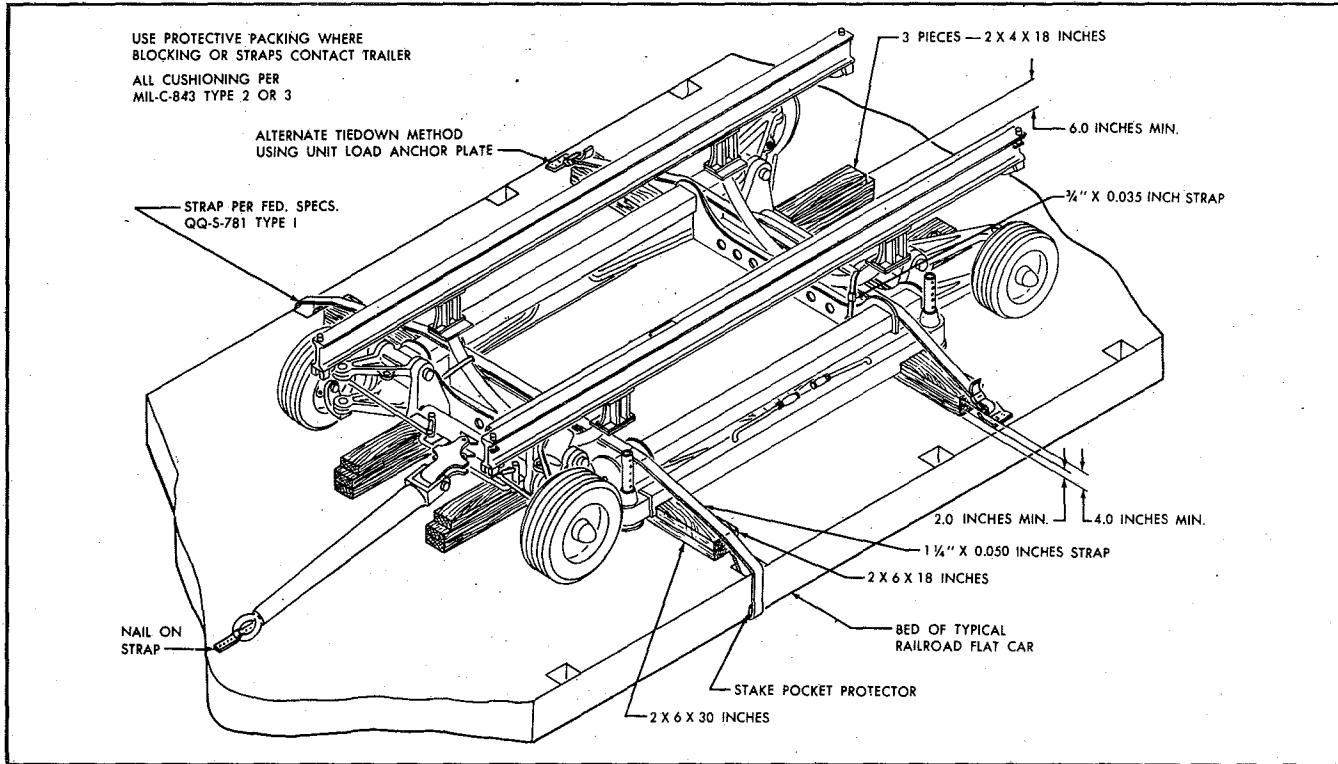

Figure 4-4. Tie-Down For Rail Shipment
4-21. RAIL SHIPMENT. (See figure 4-4.)
4-23. After positioning the trailer on the rail car bed, locate four (4) 2 x 6 x 30 wood blocks under the main frame as shown in Figure 4-4 and lower main frame (see Paragraph 2-5, Section II) so that the main frame rests on the blocks and the trailer weight is off the wheels. Spike wood blocks to rail car bed.
4-24. Locate the 2 x 4 and 2 x 6 wood blocking for end and side movement as shown in Figure 4-4 and nail blocking to rail car bed.
4-25. Tie trailer down using 1-1/4 inch wide by .050 inch thick steel strapping per Federal Specification QQ-S-781, Type I, as shown in Figure 4-4. If stake pockets are not suitably located, secure ends of steel strapping to rail car bed using unit-load anchor plates nailed securely to rail car bed.
Steel strapping shall not *pass* over the top of the aluminum transfer rails of the trailer, but over the end channels of the upper frame assembly, as illustrated in Figure 4-4, between the side plate of the end channel and the arc-shaped rail support tube.